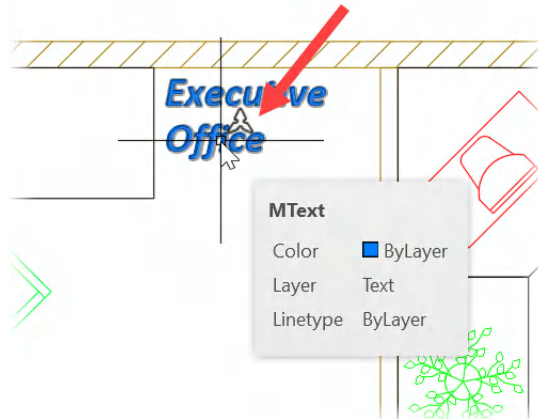

Figure 8.28: The annotative symbol is shown when hovering over the annotative text object
2. Hover over the multiline text object that says **Executive Office**. You can see the annotative symbol visible in *Figure 8.28*: